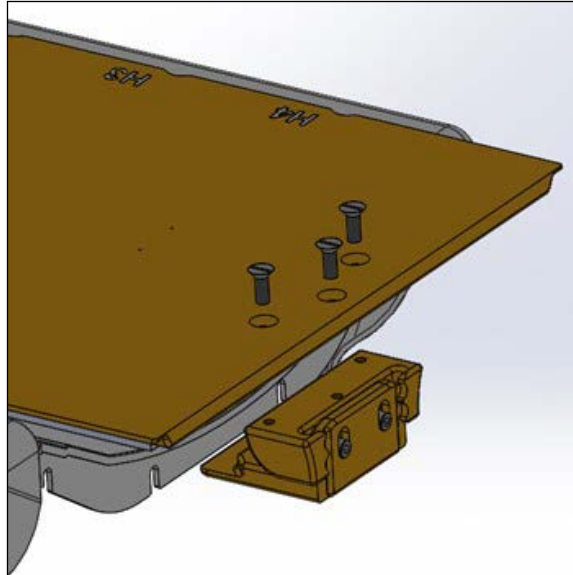

Fig. 30
2. Install Head End Assembly onto CT Overlay using plastic $\frac{3}{8}$ –16 Flat Head Screws (Fig. 30).